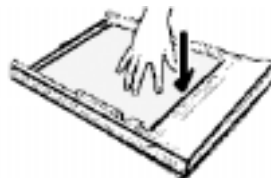

Figure 25. Locking media in place
5. Push down on the metal paper lift plate to lock it in place as shown in Figure 25